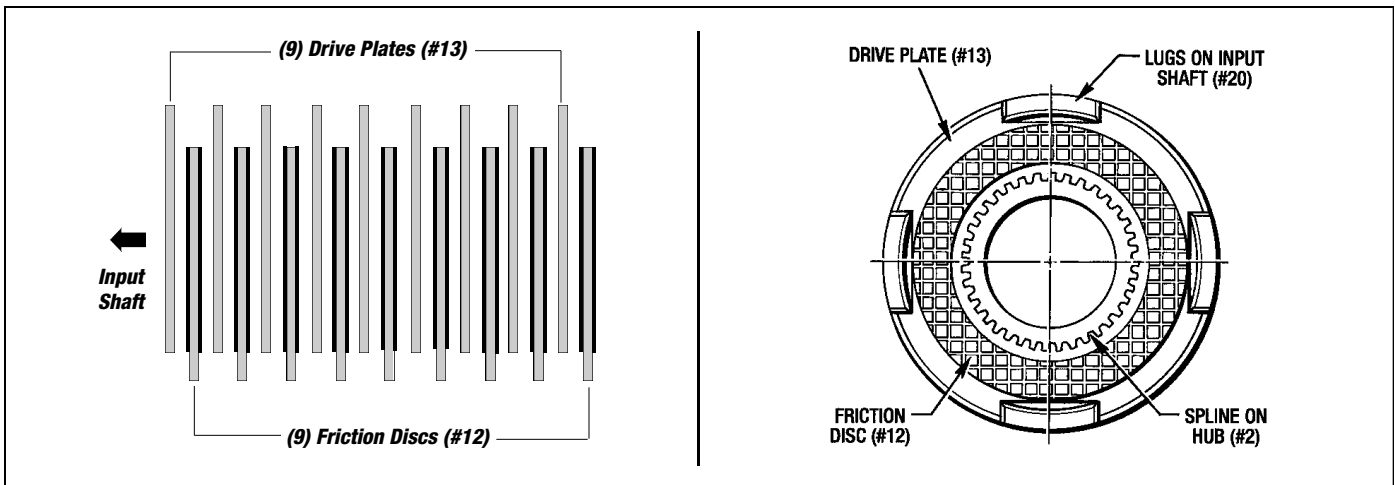
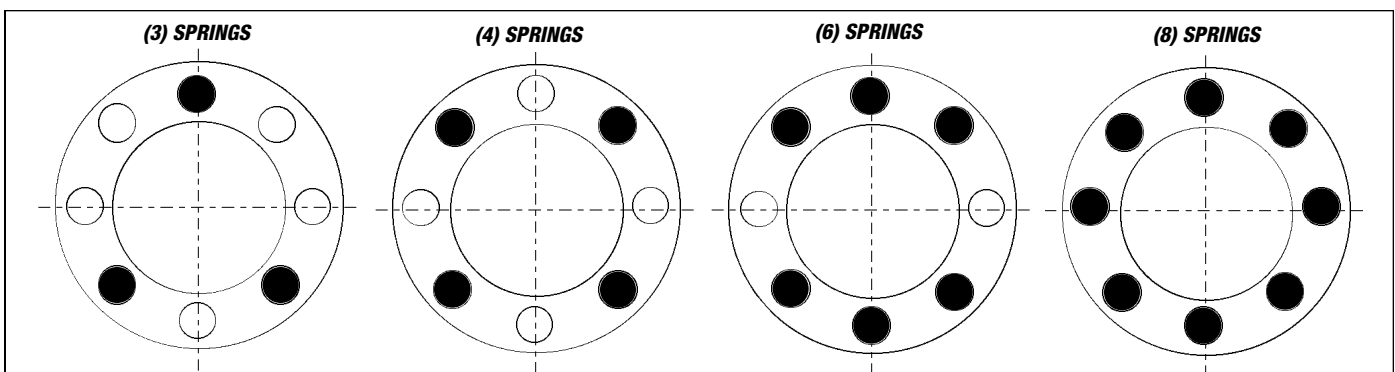

Figure 7.2 - Clutch Stack
Figure 7.3 - Correct Spring Placement
NOTE: Make a freehand sketch showing the location of the springs. This will help you at reassembly. (See Figure 7.3)
- Lubricate the O-Ring (#76) and Liner (#81) with the same oil that is used in the drive and install them into the Piston Housing (#16). Also lubricate the (2) O-Rings (#75) and Liner (#80) and install them on the Piston (#18).
- Replace the correct number of Springs (#83) back into the piston spring pockets. Use your freehand sketch that you made for correct placement or see Figure 7.3. White grease can be used to keep the springs in place.
- Place the Piston Retainer (#17) into place and attach with (2) Lock Washers (#174) and (2) Screws (#180). Tighten these (2) Screws down in an even manner to compress the springs correctly. **Torque to 25 Ft. Lbs.**
- Starting with a Drive Plate (#13) then a Friction Disc (#12) install (9) Drive Plates and (9) Friction Discs back on the hub spline and input shaft lugs. (See Figure 7.2 above.)